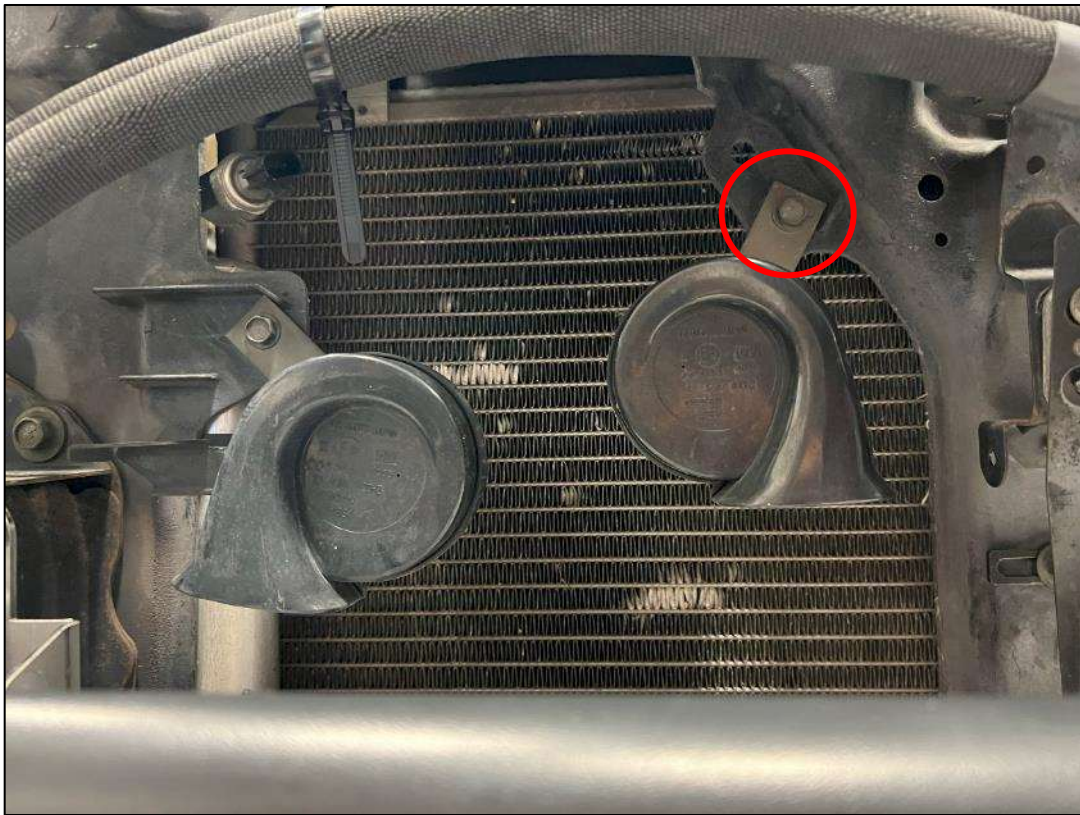

Figure 18
8. Unbolt the Right Horn from the Core Support and retain the mounting bolt. *Figure 18.*